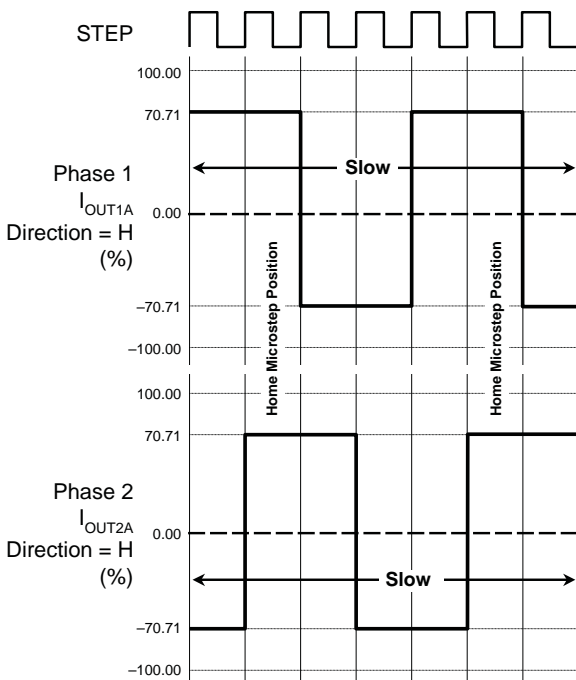

Figure 2. Decay Mode for Full-Step Increments
At power-on or reset, the translator sets the DACs and the phase current polarity to the initial Home state (shown in figures 2 through 6), and the current regulator to Mixed Decay Mode for both phases. When a step command signal occurs on the STEP input, the translator automatically sequences the DACs to the next level and current polarity. (See table 2 for the current-level sequence.) The microstep resolution is set by the combined effect of inputs MS1, MS2, and MS3, as shown in table 1.
**RESET Input (RESET).** The RESET input sets the translator to a predefined Home state (shown in figures 2 through 6), and turns off all of the FET outputs. All STEP inputs are ignored until the RESET input is set to high.